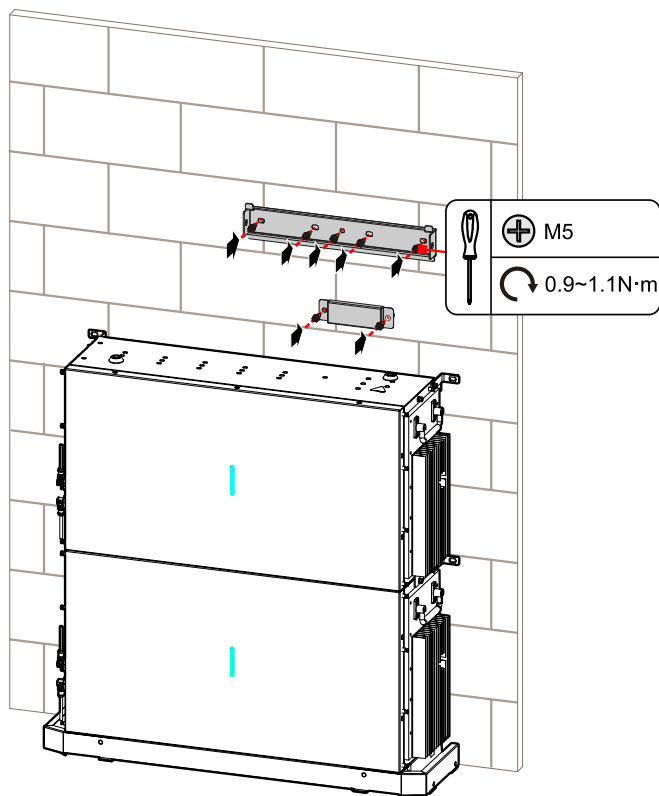

Figure3-8 Install inverter wall bracket
Step 3 Attach the wall bracket to the wall using seven M5 Self-tapping screws with the tool of screwdriver, as shown in Figure3-8.